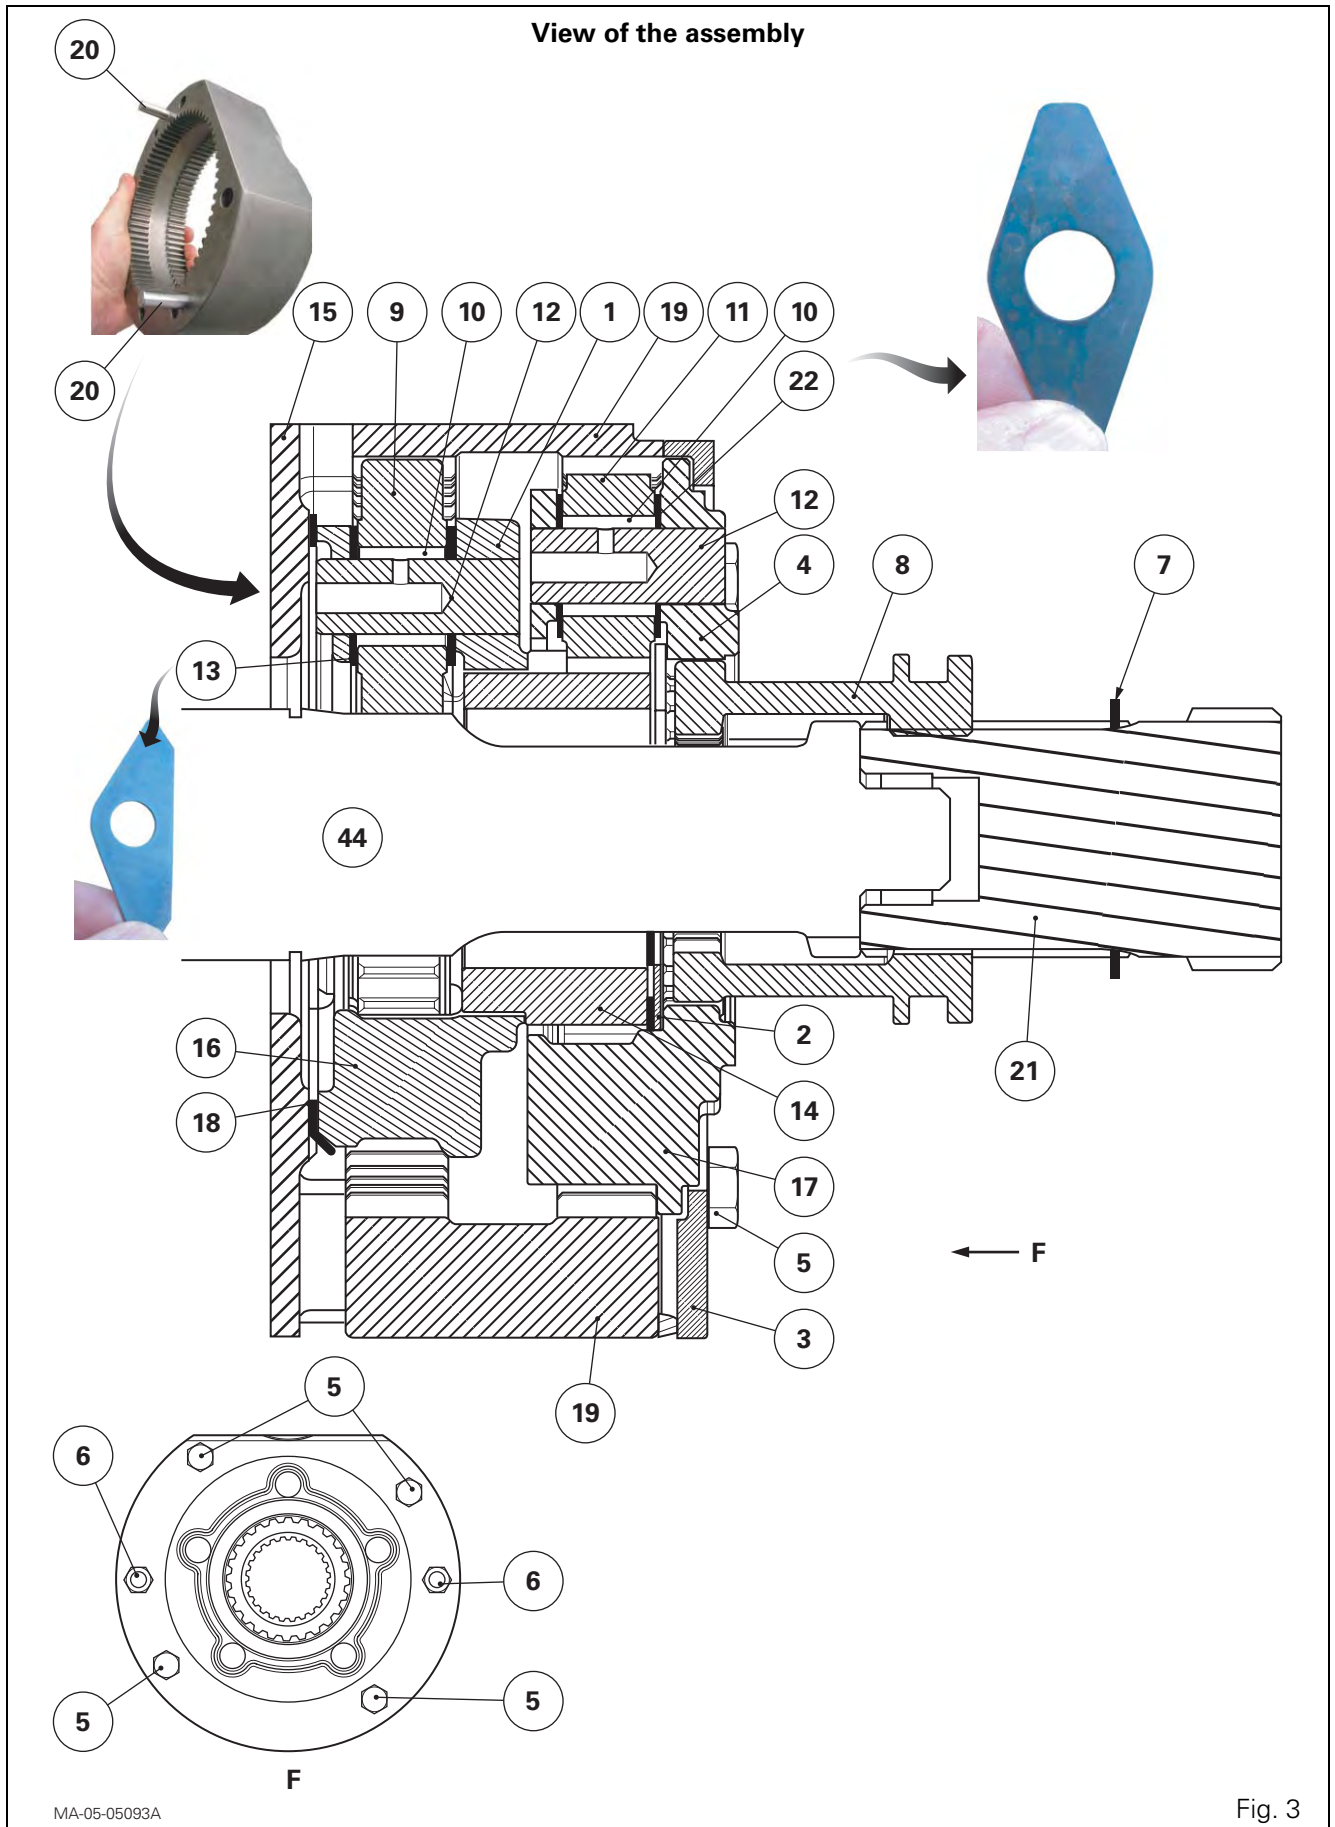

Fig. 3
- 14.** Refit the planet gears (9). Use miscible grease in oil to fit the needle rollers (10).
- 15.** Refit the gear plates (13) (14).
- 16.** Refit the pins (12), directing them as required to fit the circlip (16).
- 17.** Fit the circlip (16). Manually check the axial clearance and rotation of each planet gear.
- 18.** Position the stop plate (15) and the ring gear (19) on the housing (Fig. 3).
- 19.** Fit the friction washers (2) and (18) smeared with miscible grease on the planet carrier (1).
- 21.** Position the cover plate (3). Tighten screws (5) to a torque of 34 - 52 Nm.
Parts list (Fig. 3)